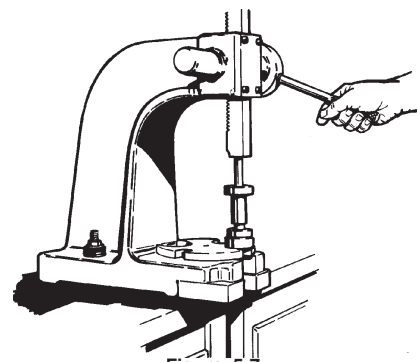

Figure 5-7
1. Using an arbor press, install the bearings on the shaft prior to installing the shaft into the pedestal. A steel "donut" with the proper inside diameter and outside diameter, Refer to Chart 1, should be used between the arbor face plate and the lower bearing to insure proper installation and to prevent bearing damage. The bearings must seat against the shoulder for proper alignment. Refer to Figure 5-7. \*Also refer to Alternate bearing installation